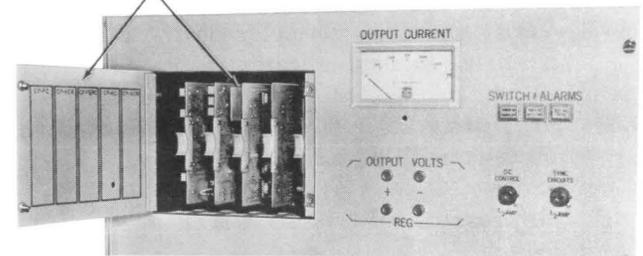

Fig. 4—KS-2113 Rectifier Control Panel—Circuit Cards in Place
- (d) The circuit packs are firmly in place (Fig. 4).